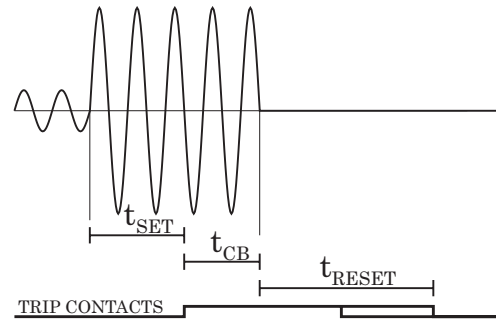

Figure 5.4: Reset time is the time it takes the trip or start relay contacts to open after the fault has been cleared.
Figure 5.4 shows an example of reset time i.e. release delay, when the relay is clearing an overcurrent fault. When the relay's trip contacts are closed the circuit breaker (CB) starts to open. After the CB contacts are open the fault current will still flow through an arc between the opened contacts. The current is finally cut off when the arc extinguishes at the next zero crossing of the current. This is the start moment of the reset delay. After the reset delay the trip contacts and start contact are opened unless latching is configured. The